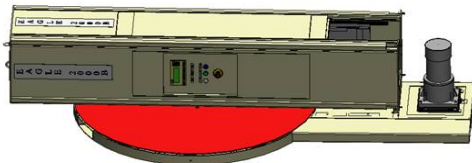

Fig. 2-4a
**Step 2** - Remove the lower rear inspection panel on the mast prior to raising the mast. The panel is located on the end of the machine next to the turntable motor. The panel has a warning label affixed to it. (See Fig. 2-4a & Fig. 2-4b)